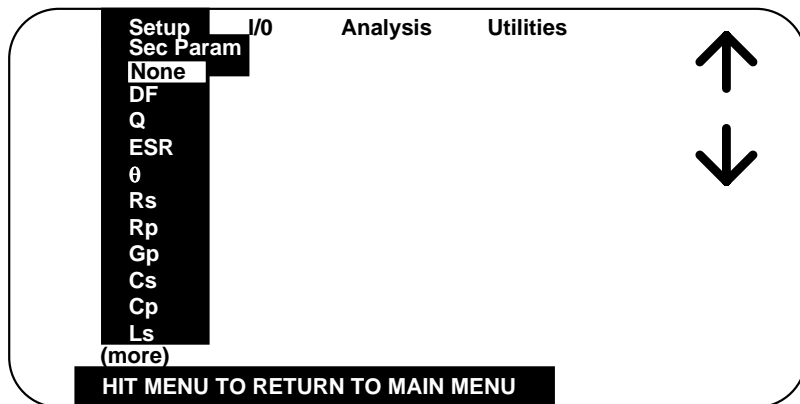

**Figure 2-8
Impedance is the parameter used to characterize electronic components, materials and circuits. Impedance $|Z|$ is defined as the opposition a device or circuit offers to the flow of ac current at a particular frequency and is generally represented as a complex quantity consisting of a real part (resistance, R) and imaginary part (reactance, jX). Impedance can be expressed using the rectangular coordinate form ($R + jX$) or polar form as magnitude and phase angle ($|Z| \angle \theta$). Figure 2-7 shows the mathematical relationship between R , X , $|Z|$, and θ for both inductive and capacitive devices. In some cases it becomes mathematically practical to represent impedance using the reciprocal where $1/|Z| = |Y| = |G + jB|$, where $|Y|$ represents admittance, G conductance, and B susceptance. This mathematical relationship is shown in Figure 2-8 for inductive and capacitive devices.
Quality factor (Q) is used as a measure of a reactance's purity (how close it is to being a pure reactance, i.e. no resistance) and defined as the ratio of the energy stored in a device to the energy dissipated by the device. Q is dimensionless and is expressed as $Q = X/R = B/G$. From Figure 2-8 one can see that Q is the tangent of the angle ϕ . Q is commonly applied to inductors and for capacitors the term generally used to express purity is Dissipation Factor (D), which is the reciprocal of Q.